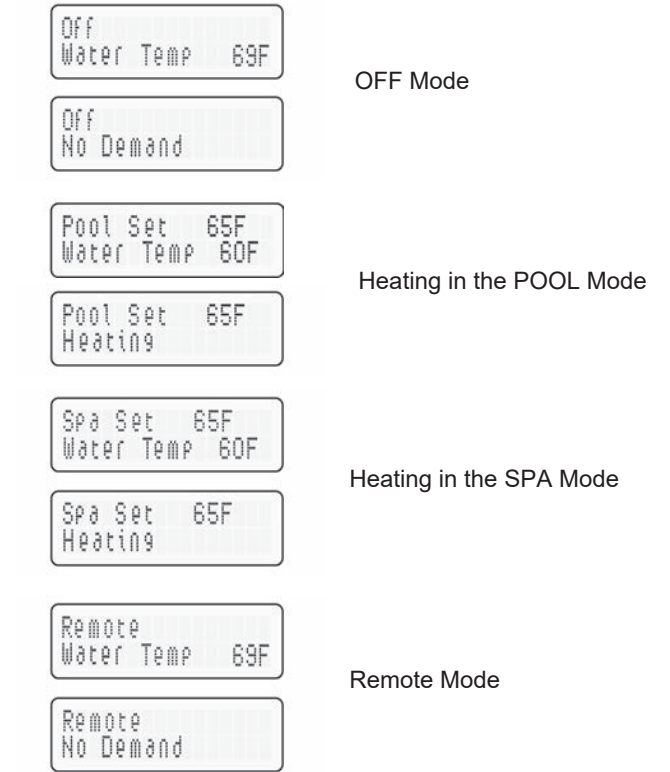

Figure 52. Remote Control Menu - Remote Operation
**⚠ CAUTION:** Before installing remote controls to the digital heaters, read the following: The digital thermostat model is remote-ready in most cases. The digital liquid crystal display (LCD) shows the actual pool temperature, operating status, and service codes. See Figure 52. The touch pad on the control panel allows you to select the desired pool or spa temperature. It also indicates when a remote system is controlling the heater by displaying **Remote** in the display. When connecting the heater to a remote system, identify whether it is a two- or three-wire remote system. Select the appropriate instruction listed below to properly install the remote to the heater.